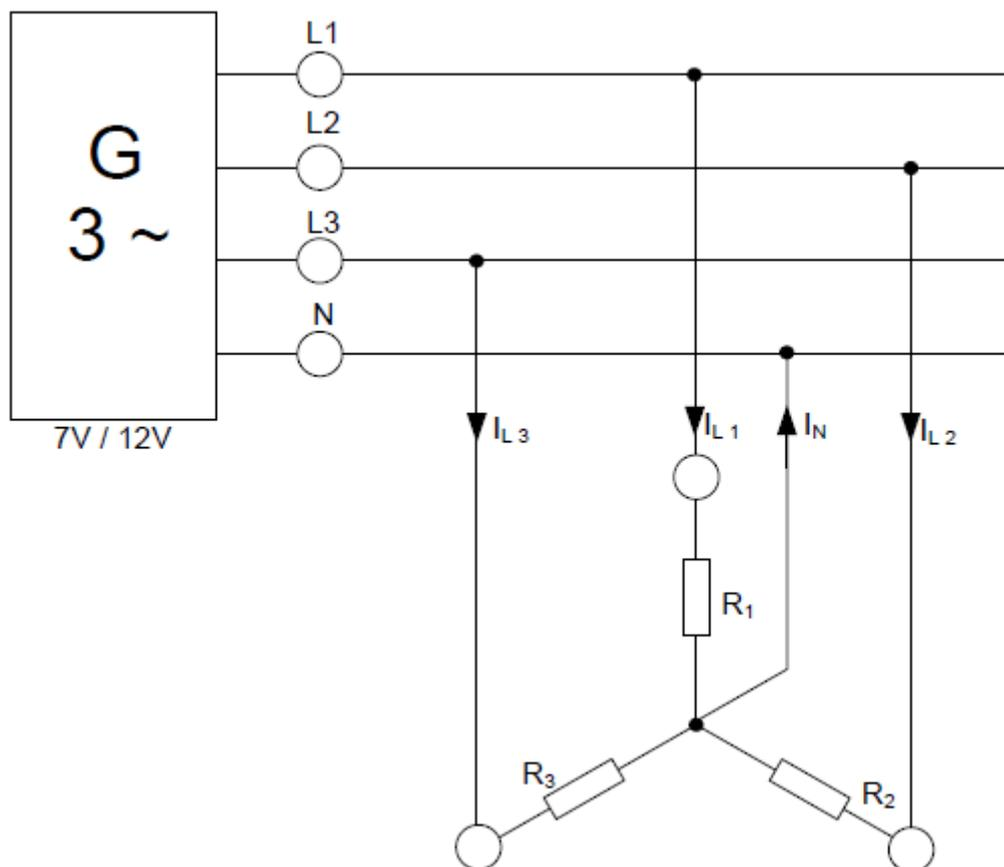

Figure 10.3 Balanced Y-Y system
- Connect a symmetric load to the circuit as shown in figure 10.3.